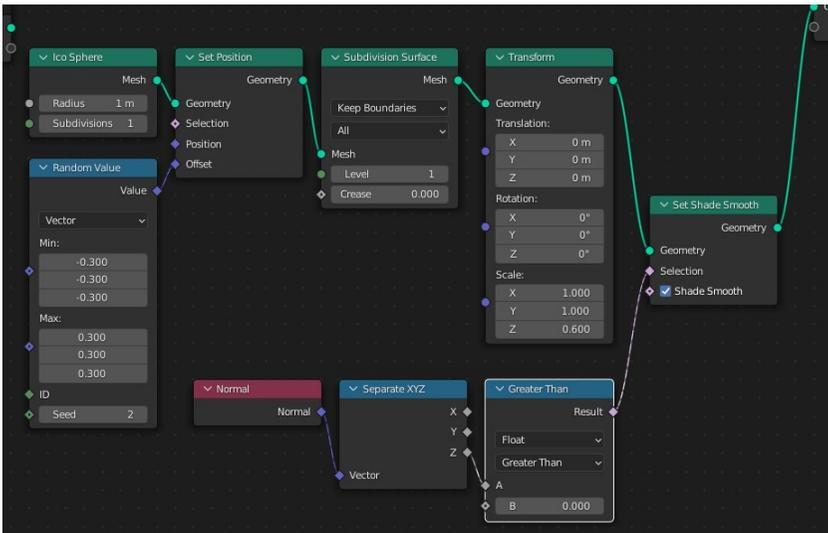

Figure 14-2 Applying selection criteria to a node
- In order to create a selection criterion based on the normal direction you need to find whether the Z component of the vector is positive which you can do by adding two more nodes by selecting **Add ▶ Vector ▶ Separate XYZ** and **Add ▶ Utilities ▶ Compare** setting the Type to **Float**, Operation to **Greater Than** and the second input Value to **0.0**. Connect the Result output to the Selection input of the set shade smooth node. The layout is shown in Figure 14-2